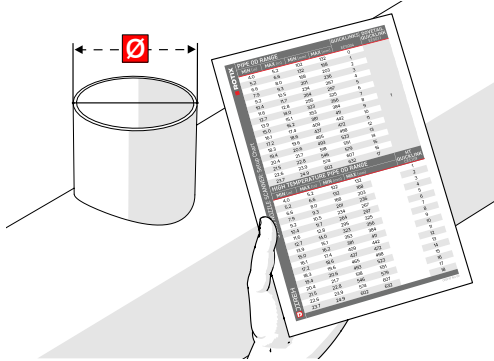

Fig. 87 - Refer to setup chart
1. Determine the diameter of the nozzle to be scanned. The **ROTIX** kit includes a setup chart indicating the number of links required based on the pipe diameter or tubing (Fig. 87).